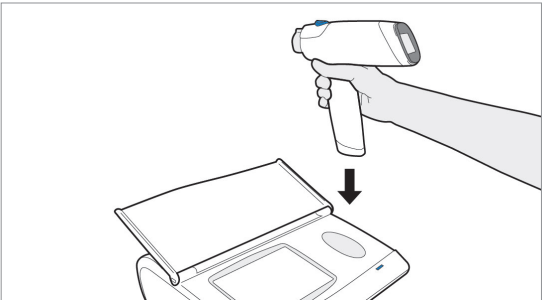

Figure 10 Dock Handset
3. **Dock the Handset on the Base Station (see Figure 10).**